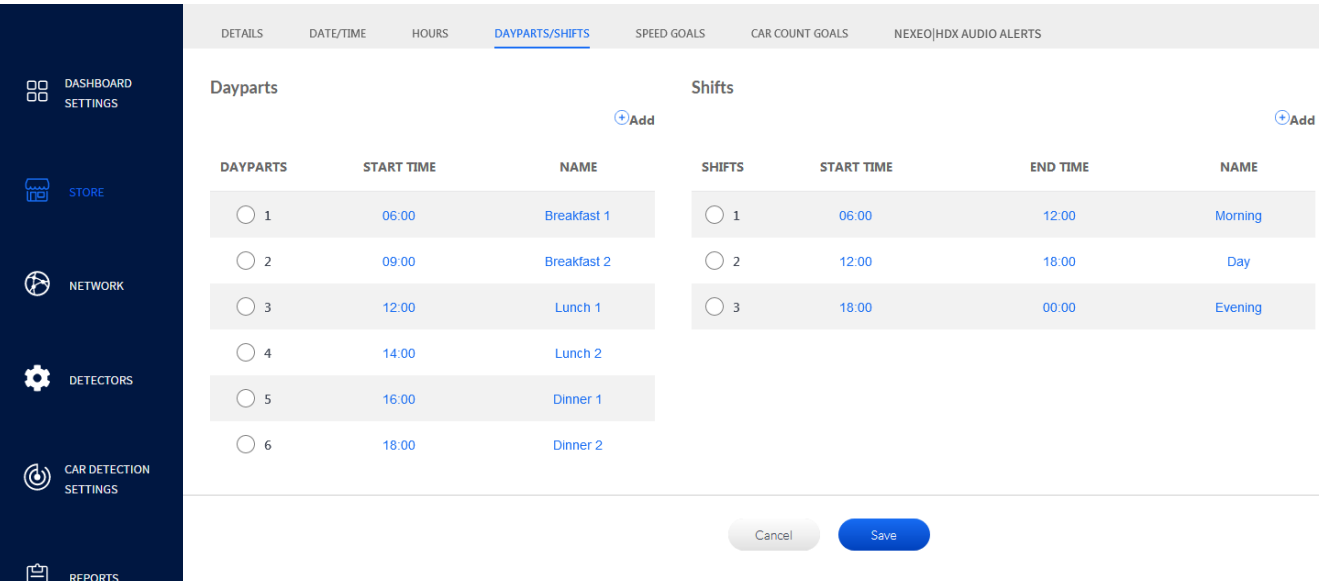

Fig. 4.4
**Example:** In Fig. 4.4 under **DAYPARTS**, there are six dayparts of various lengths (24-hour clock used). Daypart-2 is labeled “Breakfast 2”. It begins at 09:00 and ends at the beginning of Daypart-3 (i.e., Lunch 1 at noon). **Dayparts can be equal periods, or they can also vary in duration.** If your day is broken into many small dayparts, you may have to scroll down to see all the dayparts displayed.
Fig. 4.4 also shows three 6-hour shift periods under **SHIFTS**. They begin with the Morning shift at 06:00 and end with the Evening shift, which runs from 18:00 to 00:00 (midnight). The system auto-